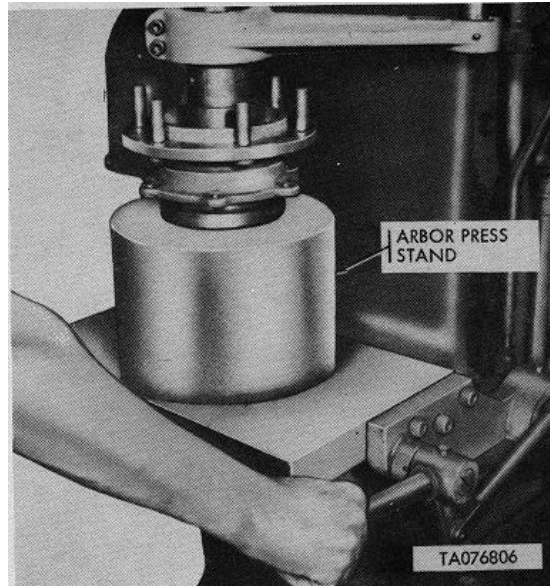

Figure 4-29. Output Shaft Installed in Bearing Cap Using Arbor Press Stand
- (c) Insert six ribbed shoulder bolts (26) in holes of ring of output shaft (25). Press output shaft (25) through bearing cap (27) using arbor press stand, special tool (42, fig. 1-2). Refer to figure 4-29.